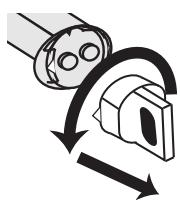

Fig 4
4. Remove the cap on the EZ-Fill Xpress syringe and attach the mixing tip as depicted in Figures 4, 5, and 6. Depress the plunger to express material onto the mixing pad. **Discard the first few drops of sealer as they may be improperly mixed.**